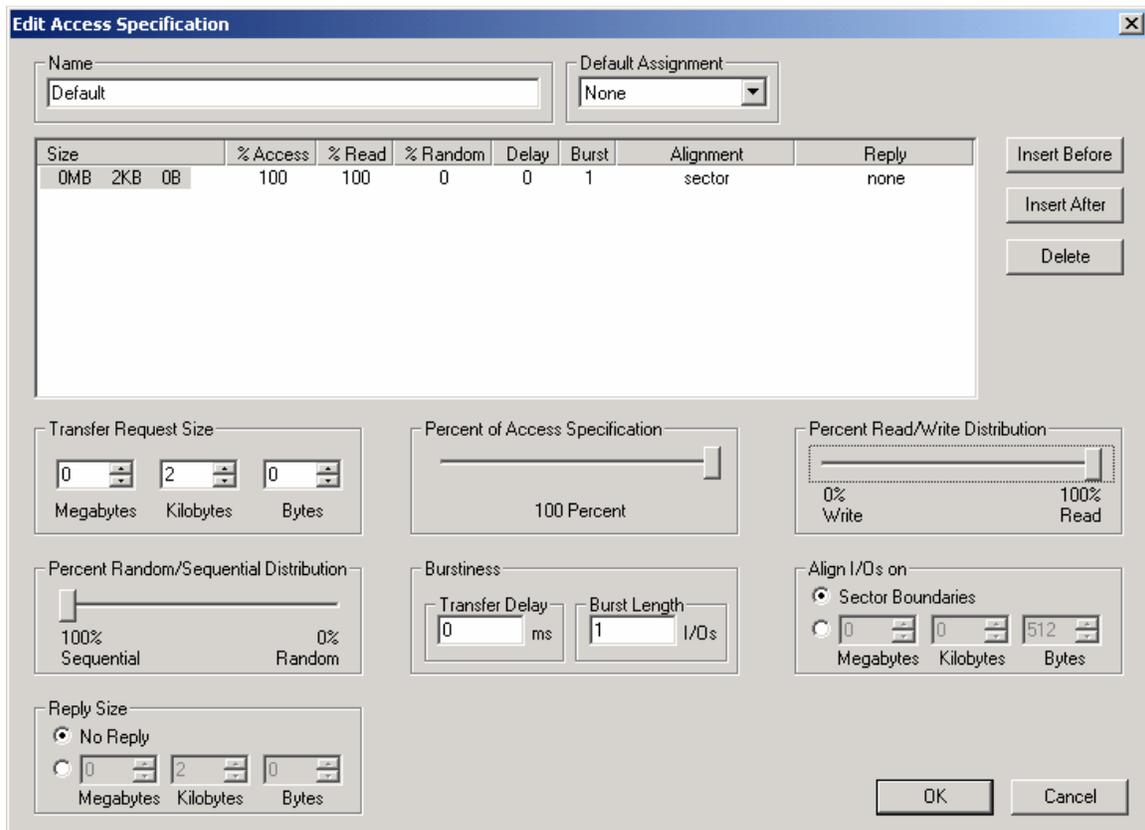

Figure 4
- Then select the “Edit” button to the right. The Edit Access Specification window will appear (see figure 4).